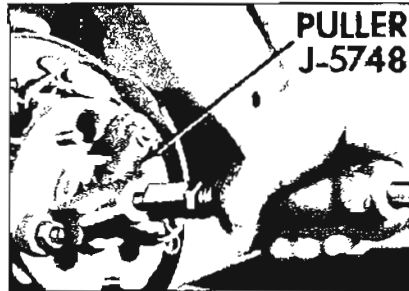

Figure 6-5—Removing Rear Axle Shaft
4. Pull out axle shaft assemblies using Puller J-5748 and Adapter J-2619-4 with a slide hammer. See Figure 6-5.